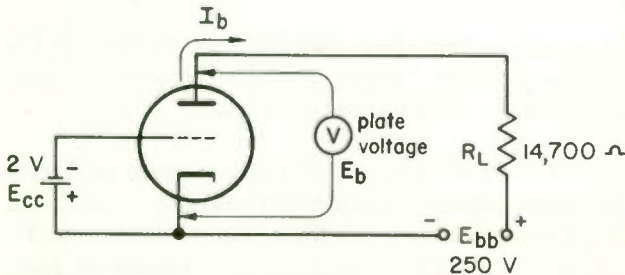
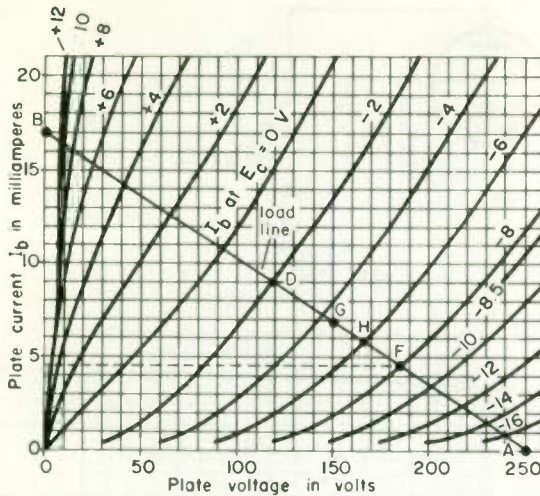
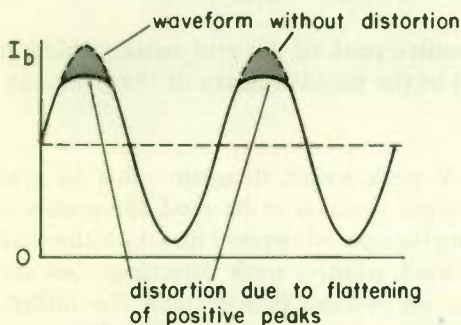
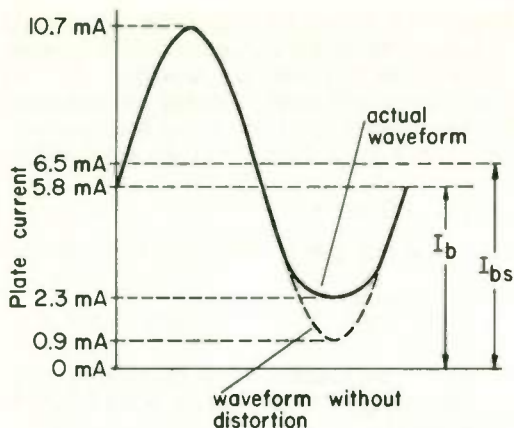

Fig. 17 Diagram for use with load line of Fig. 18.
Fig. 18 Load line for Fig. 17.
Fig. 22 Amplitude distortion due to rounding off of positive peaks of plate current waveform.
Fig. 23 Amplitude distortion due to flattening of negative peaks.
LOAD LINES \dots The characteristic curves for the tube used in Fig. 17 are shown in Fig. 18. What is the value of the plate current I_b in Fig. 17? To read I_b from the chart, we must know the grid voltage (which we do know) and the plate voltage (which we don't know). Now, the plate voltage is equal to E_{bb} minus the voltage loss across R_L . But we must know I_b before we can find the voltage across R_L . Thus we are in the predicament of having to know I_b before we can find E_b and having to know E_b before we can find I_b ! The purpose of the *load line* in Fig. 18 is to get us out of this predicament.
Whatever the value of I_b , it certainly can't be less than 0 mA. If it were 0 mA, then the drop across R_L would be zero and the plate voltage E_b would be the same as E_{bb} , which is 250 V. So on Fig. 18 we plot a point at $E_b = 250 \text{ V}, I_b = 0 \text{ mA}$. This is point A on the chart.
be $250 \div 14,700 = 0.017 \text{ A} = 17 \text{ mA}$. So on Fig. 18 we plot a point at $E_b = 0$, $I_b = 17 \text{ mA}$. Point *B* is that plotted point. Now we draw a straight line between points *A* and *B*, and that line is the load line.
To find the plate current and plate voltage in Fig. 17 from the load line in Fig. 18, find the point on the graph where the curve for the grid bias ($E_c = -2 \text{ V}$) crosses the load line. This point is marked point *D* in Fig. 18. From this point we read $I_b = 9 \text{ mA}$ and $E_b = 118 \text{ V}$, the plate current and plate voltage values in Fig. 17.
EXAMPLE . . . To what value should we change the grid bias voltage in Fig. 17 if we want to operate the tube so that the plate current is 4.5 mA? What will the plate voltage be?
EXAMPLE . . . To what value should we change the grid bias voltage in Fig. 17 if we want the plate voltage to be 150 V? What will the plate current be?
USING THE LOAD LINE TO FIND OUTPUT SIGNAL AMPLITUDE . . . Figure 21(a) is the same as Fig. 17 except that provisions have been made for an input signal E_g and an output signal E_1 . Let's suppose that E_g has a peak amplitude of 2 V, as shown in Fig. 21(b). The varying voltage of E_g will add to and subtract from the -2-V bias voltage E_{cc} to give a composite voltage on the grid that varies in instantaneous values from $-2 \text{ V} + 2 \text{ V} = 0 \text{ V}$ to $-2 \text{ V} - 2 \text{ V} = -4 \text{ V}$ on the grid. This is voltage E_c and is shown in Fig. 21(c).
Using the load line of Fig. 18, we find that when E_c is at its least negative value (0 V), I_b is 10.7 mA. Since the plate current is the greatest when the grid voltage is the least, the highest instantaneous value for the plate current is 10.7 mA. The lowest instantaneous value of plate current occurs when the grid voltage is at its most negative instantaneous value,
Point *D* on the load line of Fig. 18, which shows the values of I_b , E_b , and E_c in Fig. 21 when there is no input signal, is called the *operating point*. You will see in the next topic that the choice of a suitable operating point is important in reducing amplifier distortion, particularly when large signal voltages are being amplified.
13 IMPORTANCE OF SUITABLE OPERATING POINT . . . A single-ended (that is, not push-pull) audio amplifier handling a strong input signal (a large grid swing) must have its operating point carefully chosen so that distortion is not caused by the rounding off of either the positive peaks of the current waveform (as in Fig. 22) or the negative peaks (as in Fig. 23). Any distortion of the plate current waveform causes a corresponding distortion of the signal voltage waveform.
is a flattening or limiting of the positive peak of the grid signal, which in turn causes the limiting (flattening) of the positive peaks of the plate current, as shown in Fig. 22.
If signal E_g in Fig. 21 exceeds 2 V peak value, distortion due to grid current flow will occur. If a larger input signal is to be used, the grid bias must be made more negative, shifting the operating point down on the load line of Fig. 18. If a triode tube is used, positive peak flattening does not occur as long as the grid does not go positive even though the instantaneous value of the grid voltage swings to 0 V, as it does in Fig. 21(c).
Suppose that H in Fig. 18 is made the operating point. With no input signal, the plate current is then 5.8 mA and the plate voltage is 166 V. If an incoming signal has a peak value of 6 V, the grid swings back and forth between 0 and -12 V. At 0 V on the grid the plate current is 10.7 mA. At -12 V on the grid the plate current is 2.3 mA. Thus the plate current swings between 2.3 and 10.7 mA as shown in Fig. 23, which also shows the distortion.
In a class A amplifier free of distortion, the average plate current (the value read on a d-c ammeter in series with the plate supply voltage) will be the same when there is a signal being amplified as when there is no signal. Because of the rounding off of the bottom of the signal waveform shown in Fig. 23 the distortion has caused the average value of plate current to rise. I_b is the plate current without a signal, and I_{bs} is the average plate current with the incoming signal shown.
Distortion due to nonlinearity of the characteristic curves (the type illustrated in Fig. 23) can be kept down by so choosing the power supply voltage E_{bb} and the load resistance R_L as to give a load line over which distortion is at a minimum and by limiting the grid signal swing to a value less than the maximum capability of the tube. The choice of operating point is just as important as the choice of a load line in keeping distortion to a minimum.
4. Refer to Fig. 23. The negative half-cycle of the waveform shown has a (*greater*)(*smaller*) peak value than the positive half-cycle. Instead of saying peak value, you can say peak (*amplitude*)(*curve*)(*rise*). Thus, when the value of the average plate voltage, or plate current, does not equal the value of the no-signal d-c plate voltage, or current, the output signal voltage, or current, is said to contain (*c*) _____ distortion.
5. Refer to Fig. 18. If point H is the operating point, what is the value of the grid bias used on the tube? To what peak value would you limit the input signal?
6. Refer to Fig. 18. If the tube were biased at -2 V and the input signal to the tube had a peak value of 2 V, would the output waveform be distorted?